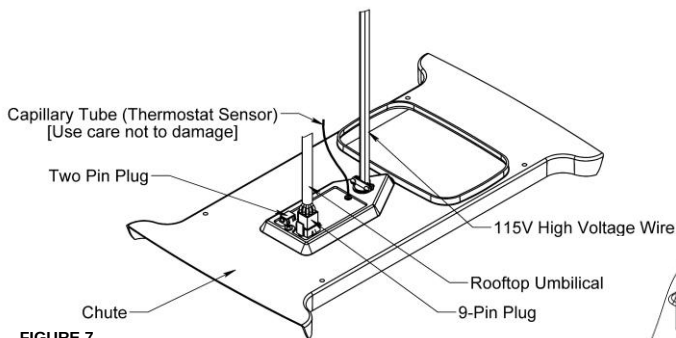

FIGURE 7
- C. Raise the ceiling assembly chute and insert the supply wiring through the cable clamp and into the wiring box so that 4-6" of supply conductor is inside the box. Secure the cable clamp over the supply wire sheath so that no movement is possible (See Figure 7).
- F. Plug the air conditioner electrical conduit into the 9-position receptacle as shown in Figure 7.
- G. If the optional heater accessory package is being installed, remove the cover from the 2-position receptacle and plug the heater cord into the receptacle as shown in Figure 7.